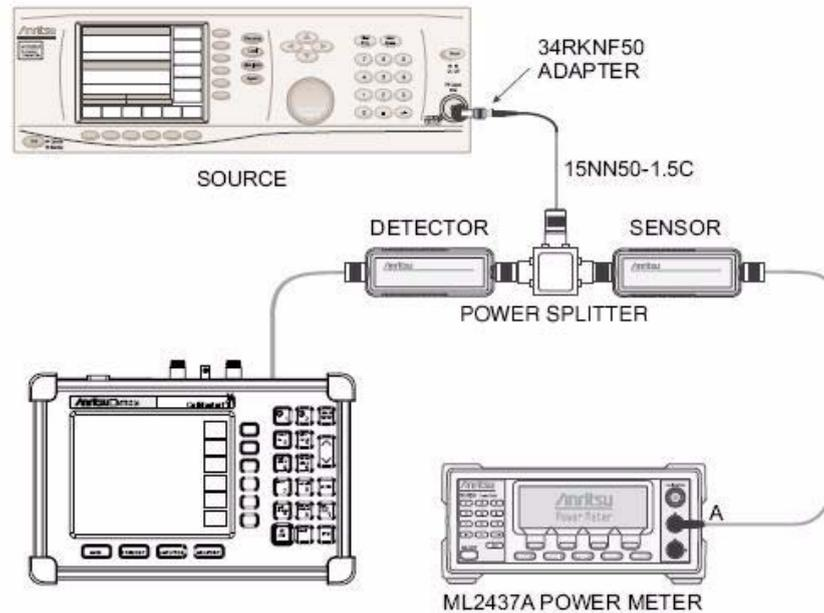

Figure 2-4. Power Monitor Verification
4. Connect the 560-7N50B detector, power splitter and MA2442D power sensor and other equipment as shown in Figure 2-4.